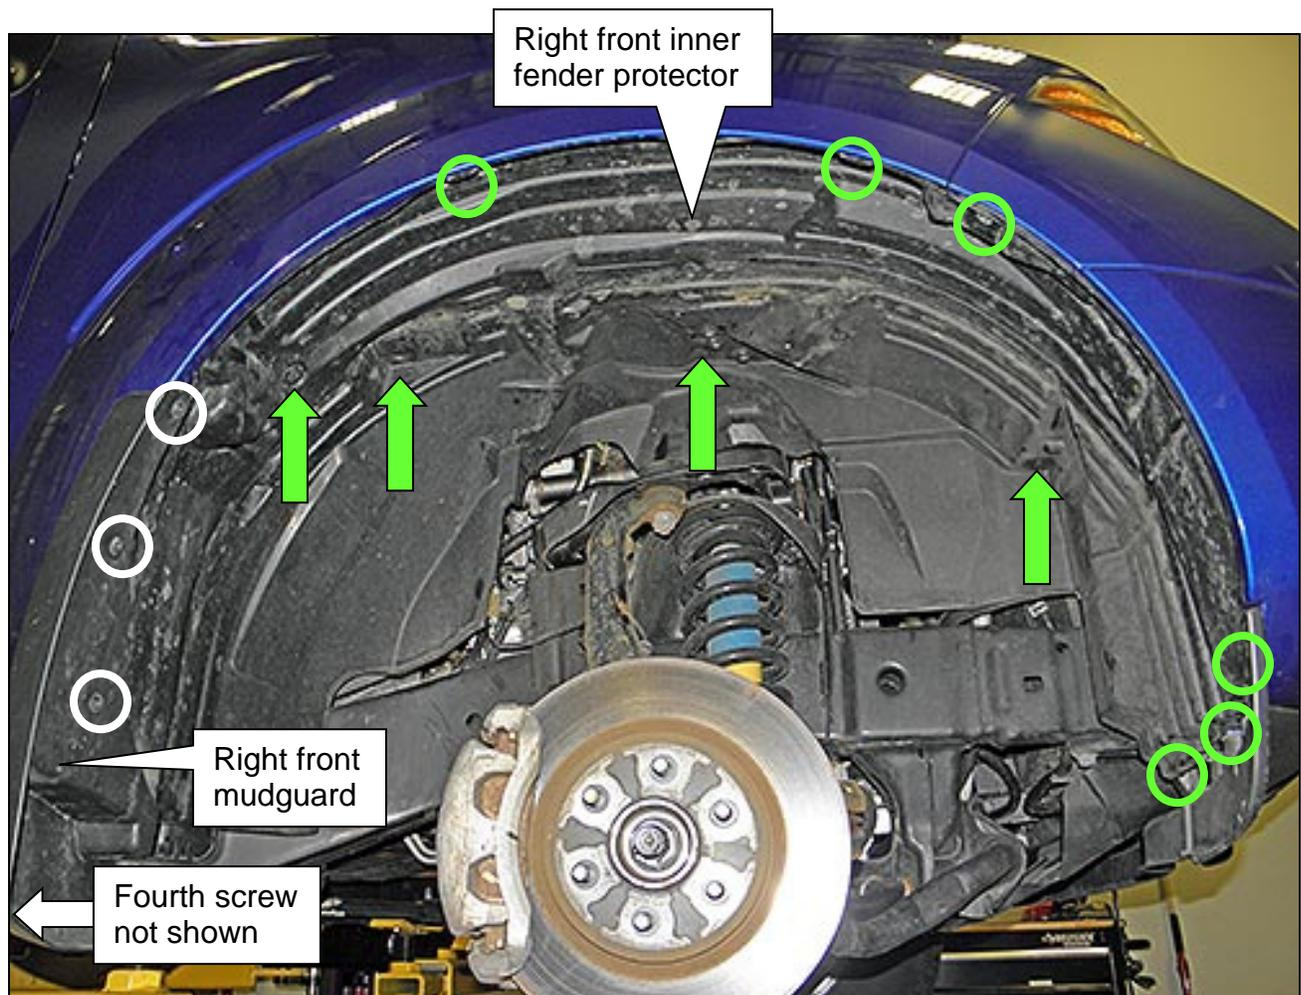

Figure 12
12. Remove the right front wheel (Figure 12, wheel shown removed).
- The front inner fender protector is held by ten screws (indicated by green and white circles, and a white arrow in Figure 12).
- If the vehicle is equipped with mudguards, (Figure 12) remove the four screws indicated by 3 white circles and one white arrow first.
NOTE: Fourth screw (white arrow) is not shown in Figure 12.
- Four push pins (indicated by green arrows in Figure 12).